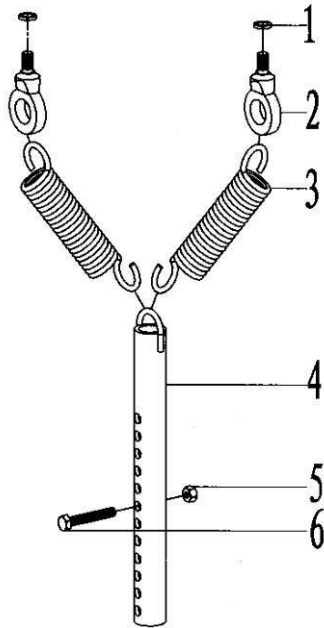

Fig 28
7.28 Rear guide rod assembly (Fig 28, Table 28)